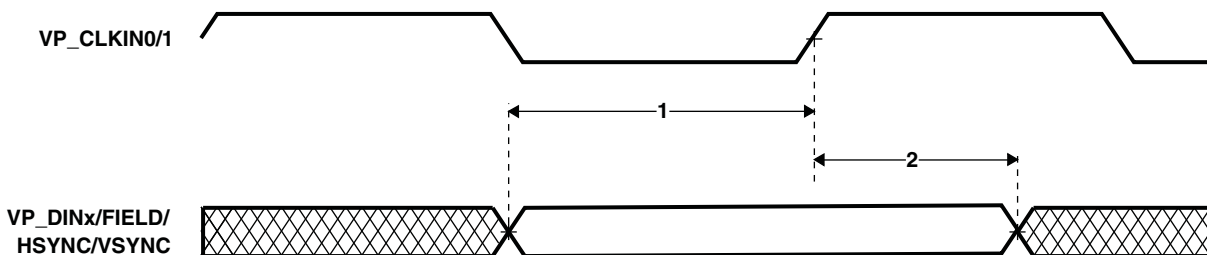

**Figure 6-66. VPIF Channels 0/1 Video Capture Data and Control Input Timing**
**Table 6-98. Timing Requirements for VPIF Channels 0/1 Video Capture Data and Control Inputs** (see Figure 6-66)